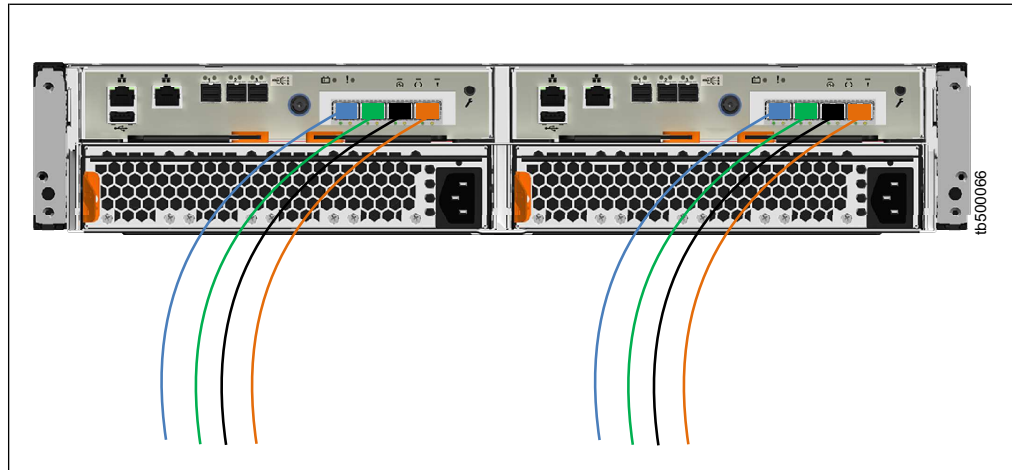

Figure 132. Example Storwize V5020 configuration with four Fibre Channel cables per canister
2. If you want to connect additional Fibre Channel cables, make sure to connect the same number of cables to each canister. Figure 132 on page 149 shows an example Storwize V5020 configuration with four Fibre Channel cables connected to each canister.